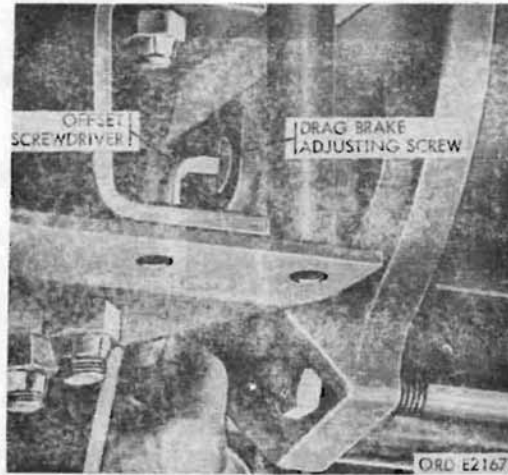

Figure 233. Adjusting front winch drag brake
a. Drag Brake (Fig. 233).
- (1) Test. Normally the drag brake will not require adjustment, but adjustment can be checked by pulling the line off the winch drum with the winch clutch disengaged. If the drum continues to turn when the pulling is stopped, adjust in accordance with (2) below.
- (2) Adjustment. The drag brake is tightened to prevent the drum from spinning when pulling off the line by hand. With the winch clutch disengaged, pull the line from the drum by hand, turning the drag brake adjusting screw clockwise (fig. 233), until the drum just stops rotating when pulling stops. Test adjustment in accordance with (1) above.